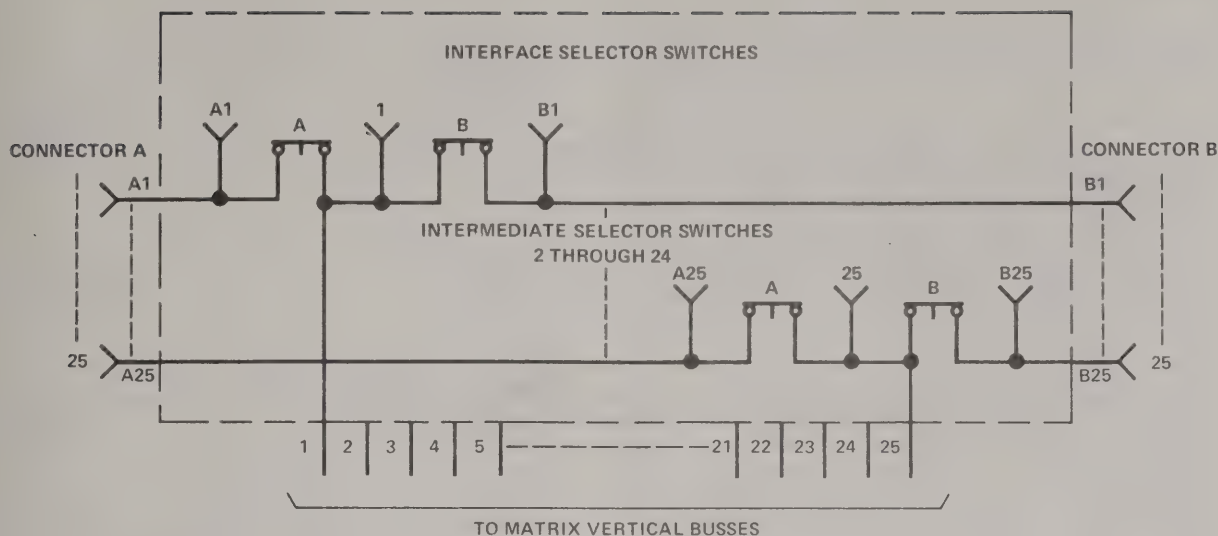

Figure 3-2. Interface Selector Switches, Schematic Diagram
**3.02** The functional block diagram of the 1914C Data Transmission Test Set is shown in Figure 3-1. Data sets to be tested are connected to the 1914C through connectors A and B (or C and D for 402-type or other parallel-type data sets). The interface selector switch assembly consists of 25-separate switches that connect the 25-pin serial data interface connectors to the vertical buses of the program matrix. The interface selector switches are shown schematically in Figure 3-2. Each A and B section is a combination of two switches and a test point. This feature makes all interface signals accessible for external connections and permits testing modems with the terminal equipment connected to the test set. With both sections of the switch closed, the corresponding pins on connectors A and B are interconnected and connected to corresponding vertical bus numbers on the matrix. When either switch section A or B is open, the corresponding pin on the connector is disconnected from the matrix bus to which it was connected.